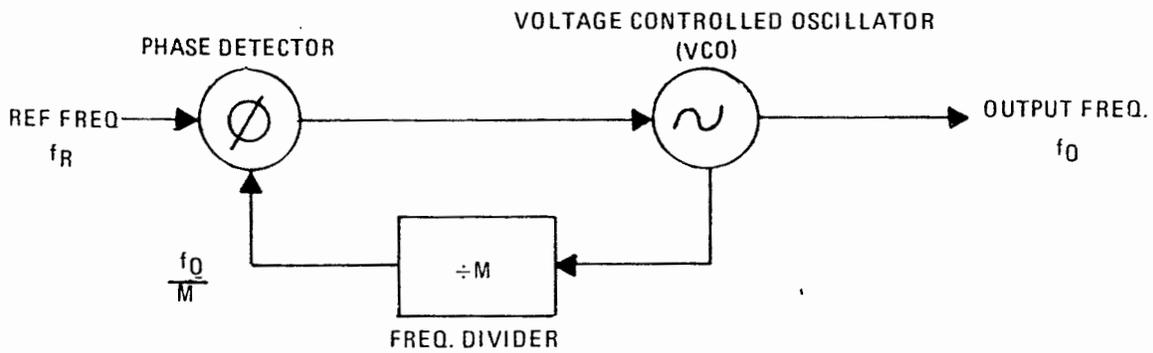

Figure 1. Simple Phase Locked Loop
In addition, a phase-locked loop may include a frequency divider in the feedback loop to obtain multiples of the reference frequency from the VCO. Figure 1 shows a simple phase-locked loop with a frequency divider. One input frequency to the phase detector is a stable reference, the other is the divider output. The loop works by forcing the two frequencies to be exactly equal. It does this by electrically tuning the VCO. When the VCO is tuned to the frequency at which $f_o \div M = F_R$, the loop is said to be locked. For example, in the RF-131, assume that the VCO is electrically tunable in the vicinity of 1.7000kHz, that the reference frequency is 1kHz, and that the $\div M$ ratio is 17000. The feedback of the loop will force the VCO frequency to exactly $f_o = (M)(1\text{kHz}) = 17000\text{kHz}$. Other frequencies are synthesized simply by changing the division ration of the $\div M$. For example:
*These numbers apply only to the simplified circuit of Figure 1, not the actual module.